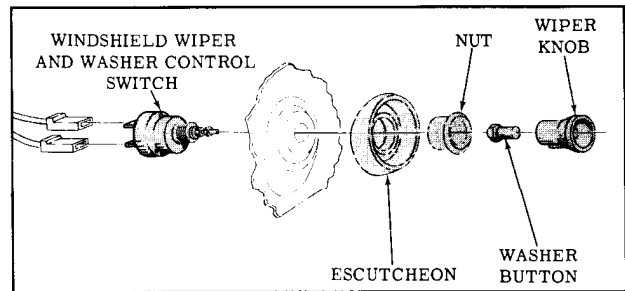

Fig. 13-128 Wiper Switch
1. Remove wiper control knob by loosening set screw and sliding knob off of wiper control switch shaft. (Fig. 13-128)